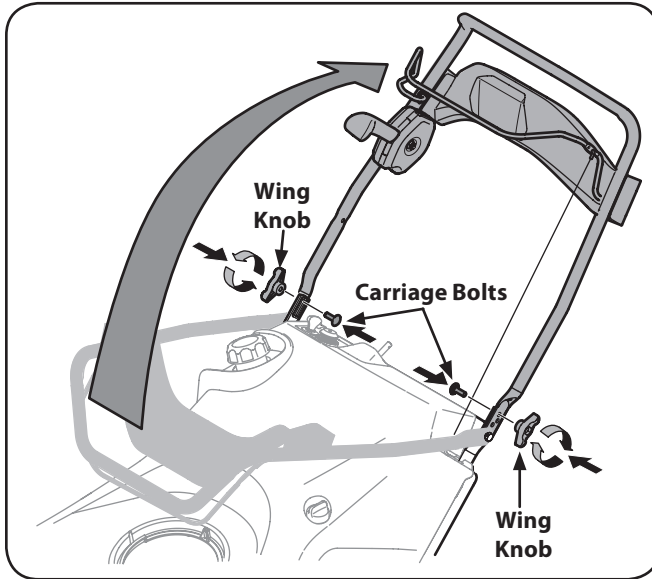

Figure 3-2
2. Pivot the upper handle into the operating position. Be sure not to pinch any of the cables in the process. See Figure 3-2.
3. On model 221 HP, tighten the previously removed hardware to secure the handle in place. See Figure 3-2. On model 221 LHP proceed with step 4.